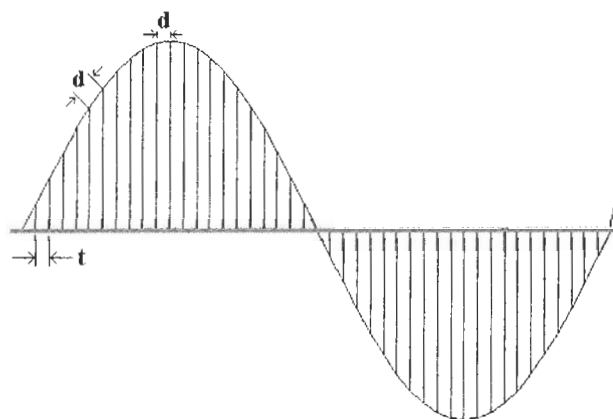

Figure L49-9
- Time is important. How do we show time? Right now, the time is chasing around on the outside of the circle and distance is marked across the horizontal ground line. But the distance the electrons move is *not* as important to us as timing. So the next thing to do is to impose a time measure onto the horizontal line, replacing distance as the measure. This is shown in Figure L49-9. The amount of voltage